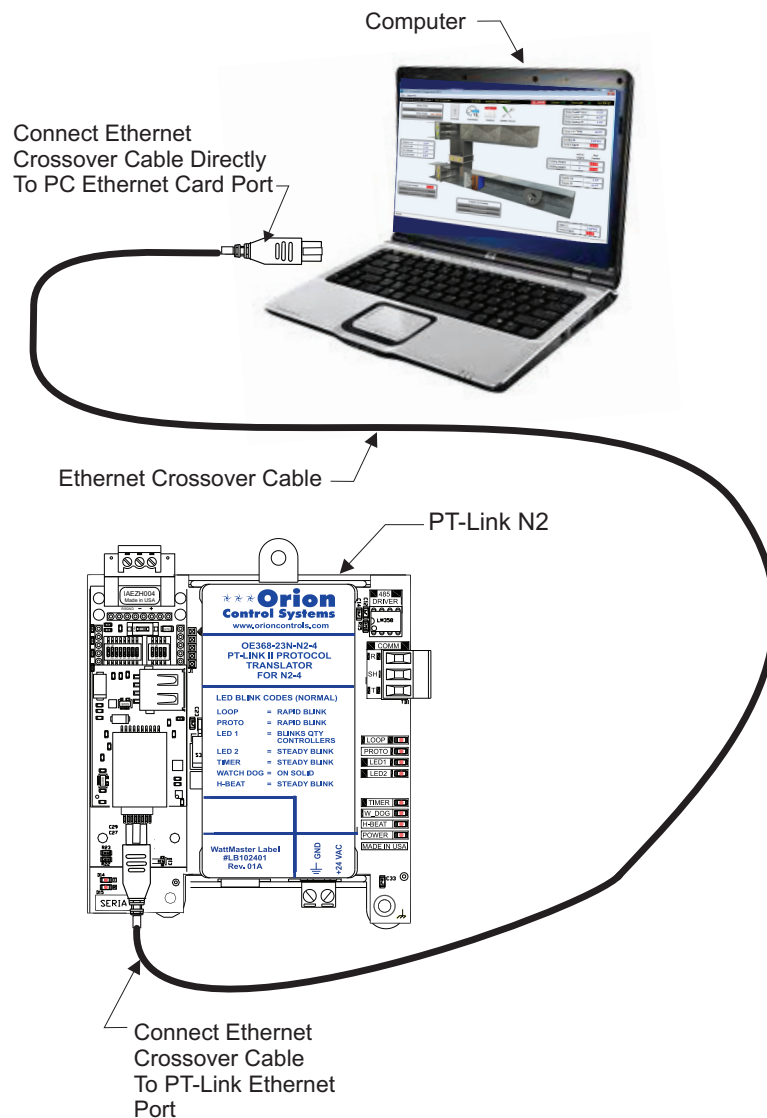

Figure 3: Connecting With Crossover Cable
4. Connect your PT-Link II to your computer using an Ethernet connection (**Figure 3, page 6**).
- 1.) Connect the PT-Link II directly to your PC by using a standard CAT5 or crossover cable (by others) as shown. See **Figure 3** for details.